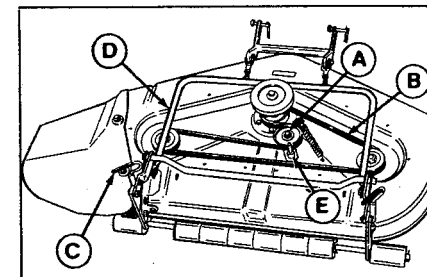

Figure 11B. Idler Pulley Pivot
3. Remove the tapite screws to remove the right-hand cover (figure 11B shows both covers removed). Pull bail up enough to remove right-hand cover.
4. Apply a few drops of oil to idler pulley pivot (E). Be sure idler pivots freely.